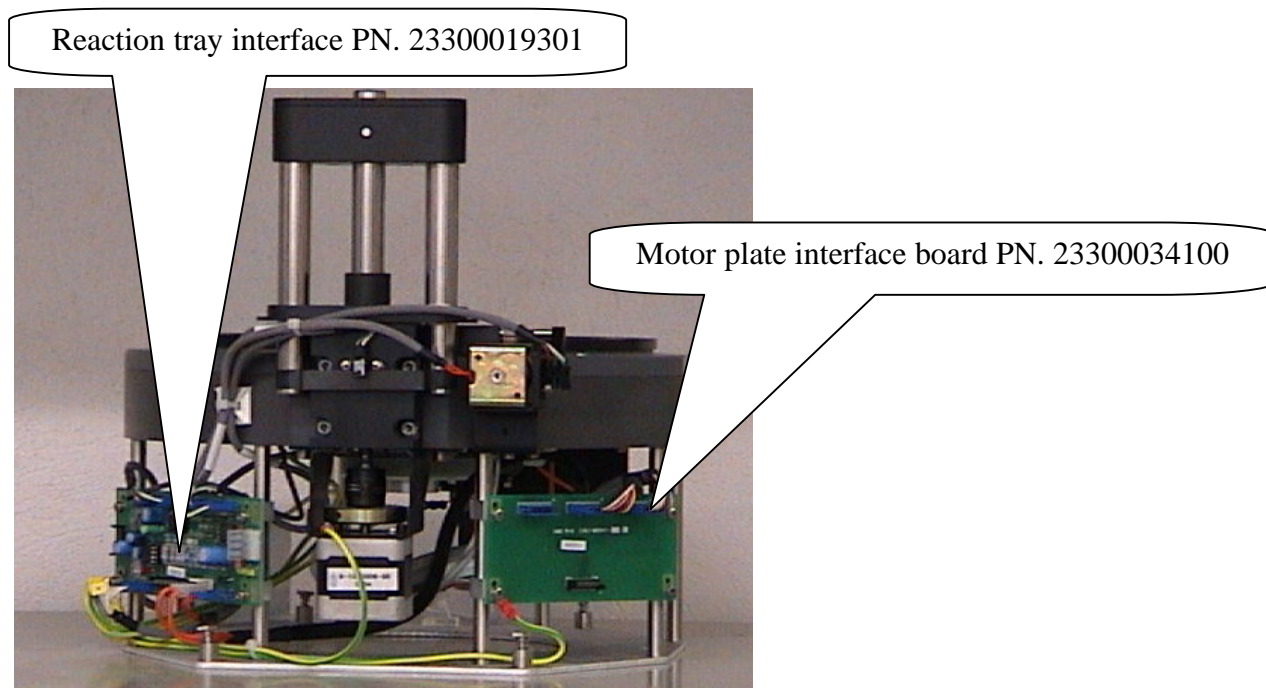

Fig. 2 Reaction Plate assembly PN. 23910006101 \*
3. Unscrew the four anchored screws of the reaction plate module (Fig. 2).
4. Remove the J1 and J3 connectors and the ground wire from the Reaction Chamber Motor Interface (Fig. 2).
5. Remove the J1, J3, J5, J6, J14 connectors and the ground wire from the Reaction Plate Interface (Fig. 2).
5. Remove the J3 connector from the Reaction Plate Interface (Fig.2).